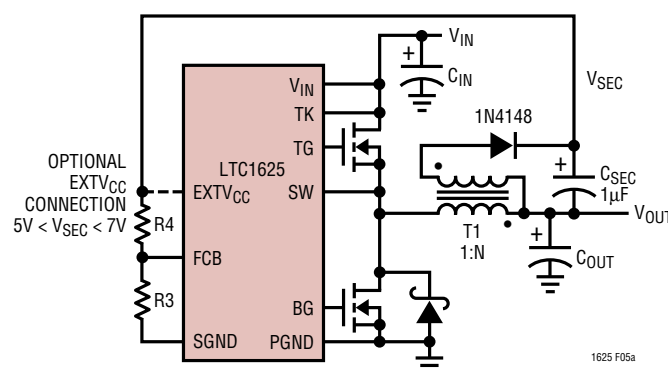
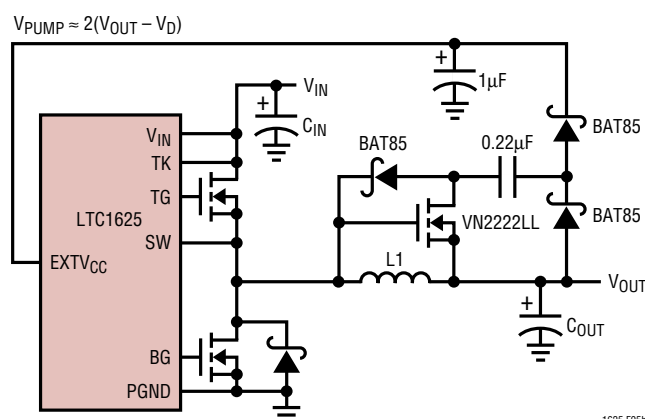

Figure 5a: Secondary Output Loop and $EXTV_{CC}$ Connection
Figure 5b: Capacitive Charge Pump for $EXTV_{CC}$
3. $EXTV_{CC}$ connected to an output-derived boost network. For 3.3V and other low voltage regulators, efficiency gains can still be realized by connecting $EXTV_{CC}$ to an output-derived voltage which has been boosted to greater than 4.7V. This can be done with either an inductive boost winding as shown in Figure 5a or a capacitive charge pump as shown in Figure 5b.
The secondary output voltage V_{SEC} is normally set as shown in Figure 5a by the turns ratio N of the transformer: